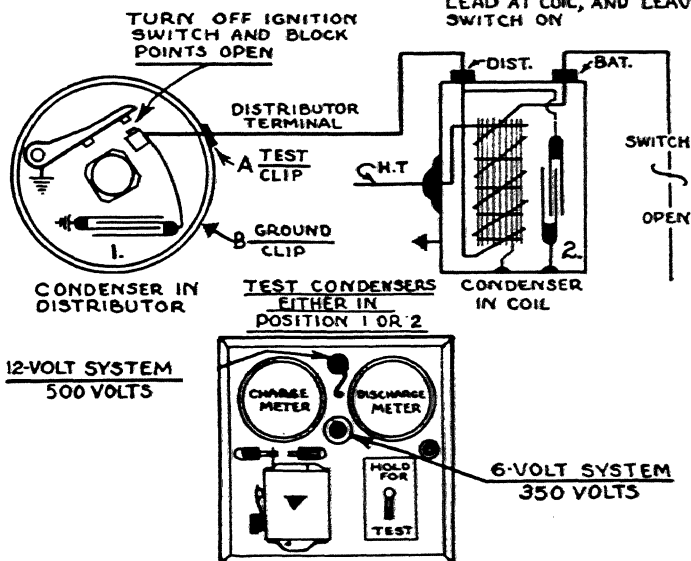

Fig. 23. Equipment for Condenser Test
**Condenser Test.** Two voltages are provided for on this test. The short lead between the charge and discharge meters should be connected to the 350-volt terminal for condensers on 6-volt systems and condensers of low capacity such as used in vibrator horns and to the 500-volt terminal for condensers used on 12-volt systems. Connect test lead, Fig. 23, to plain terminal on condenser tester on test panel. This terminal is on the extreme right of the condenser tester, to the right and under the discharge meter. Connect other end of this lead to condenser lead. Connect another test lead to ground terminal on test panel. Connect other end of this test lead to condenser bracket.
Be sure that distributor points are open. Place piece of fiber between breaker points while making condenser test. Leave ignition switch open except with electrolock when battery lead is disconnected from coil and ignition switch is closed to "on" position. Hold the condenser tester switch closed for 10 seconds, using the 350-volt tap for 6-volt systems and 500-volt tap for 12-volt systems. (See condenser chart card, Fig. 23, for correct readings.)